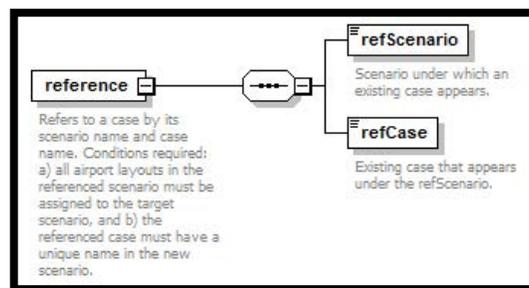

Figure 72. reference -> case and scenario
14. AsifXml/study/scenario/case/reference (Figure 72):